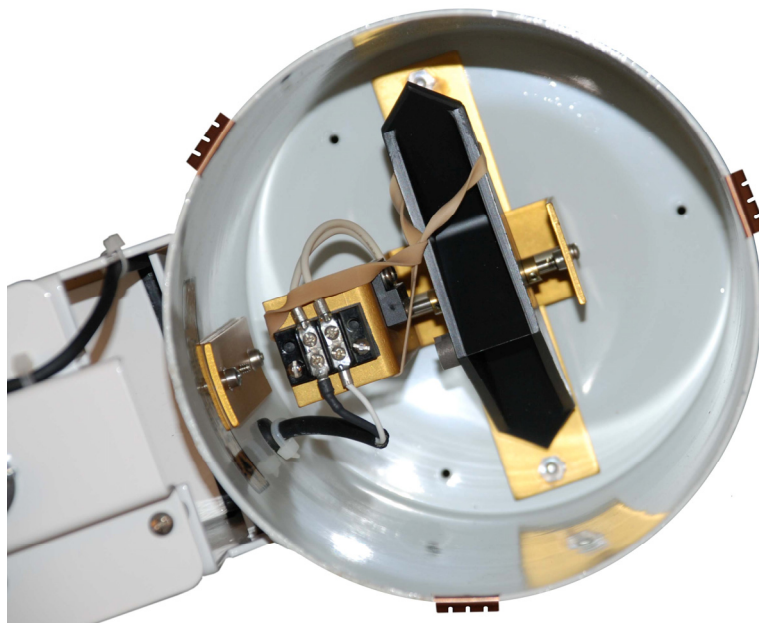

*FIGURE 2.4-10. Gill WindSonic Connected to Cable*
3. Slide the connector and cable up through the center of the mounting shaft. Plug the cable into the Gill WindSonic sensor. The connector has a key and needs to be pushed in then rotated clockwise to lock it in place. See Figure 2.4-10.